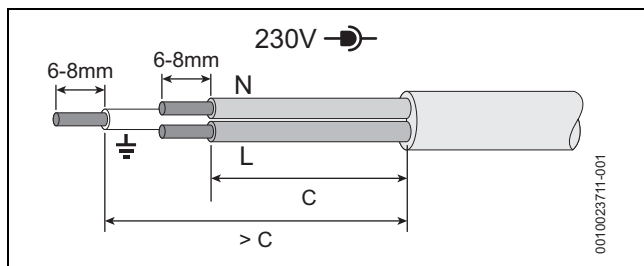

Fig. 58 Mains voltage (power cables) preparation
**230V mains cable (power cables), example → figure 58**
- Ensure the conductors (C) can reach the appropriate terminal connection and that the protective (earth) conductor is longer than the other wires.